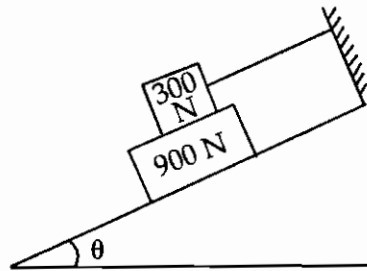

Figure 1 [Q. No. 1 (A)]
1. (A) What should be the value of ' $\theta$ ' of the inclined plane shown in Figure 1, which will make the motion of 900 N block down the plane to impend? The coefficient of friction for all contact surfaces is  $\frac{1}{3}$ . 12